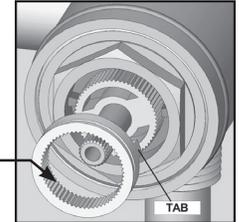

FIG. 3
4. Remove the temperature ring by placing the blade of a knife into the groove and prying it off. FIG. 3. It is not necessary to remove the inner hex nut.
| Tub filler or shower head drips after shutting off valve. | Water remains in the piping column to the shower head (this is normal) Failure to close cartridge before setting temperature ring causing a partially opened cartridge. Seal on the inlet of the cartridge is faulty. | Allow approx. 3-5 min. to drain column.* Reset the temperature ring as described on Figure 3. Check the seal for cuts or damage and replace if necessary. |